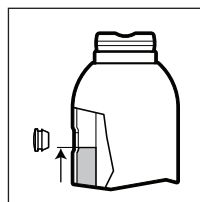
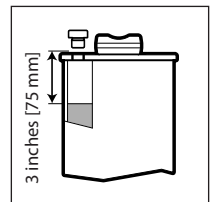

Fig. 5 - Oil Level, all models except GBJ100
Fig. 6 - Oil Level, Model GBJ100 only
3. All models except GBJ100: Fill until oil level is even with bottom edge of the oil fill hole. See Fig. 5.
4. Model GBJ100 only: Fill until oil level is about 3 inches [75 mm] below the oil fill hole. See Fig. 6.
DO NOT OVERFILL! With ram fully retracted and jack in upright position, oil level should not be higher than shown in Fig. 5 or Fig. 6 (as applicable for your jack model).